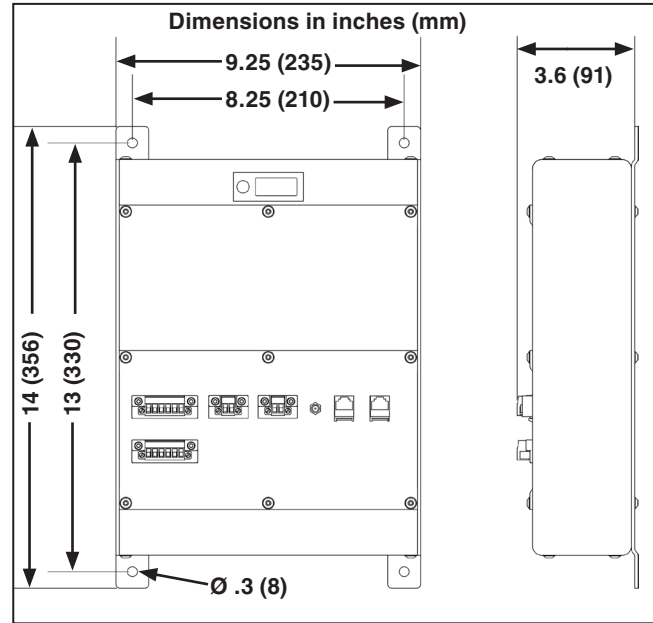

Figure 2. The wall-mounted GridMaster controller dimensions.
- STEP 1.** Tap four holes at the positions shown in Figure 2 on an interior panel of the NEMA enclosure. The mounting holes have a  $\frac{3}{8}$ -inch (9.5-mm) diameter.